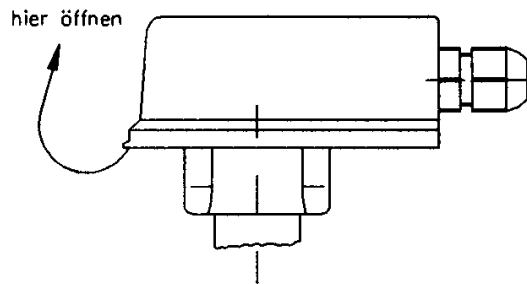
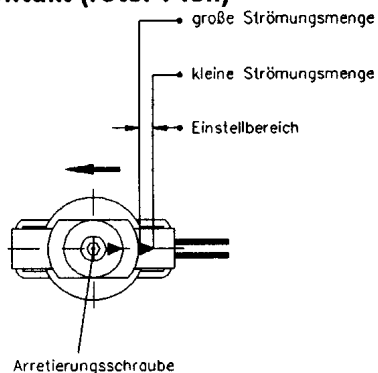

Abb.3
Abb.4
## Changing the Set Point (Fig. 3 to 5)
To change the set point the hood of the switch housing must be removed (fig. 3). Then loosen the fixing screw and move the switch so that either the red or the white arrow is just visible on the switch housing (fig. 4 and fig. 5). After setting the switch point the fixing screw has to be tightened again. Put the hood back onto the switch housing. This procedure does not have to be carried out if the switch was already set to a customer defined set point in the factory.
2. Remove hood of switch housing (fig. 3)